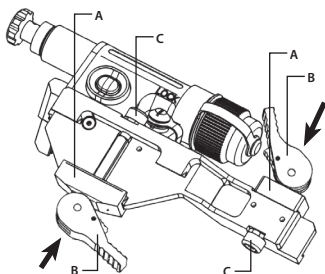

FIGURE 3-10. CLAMPING DEVICE ADJUSTMENT
2. With the clamping device (A) unlocked (as shown in Figure 3-10), push the cam (B) towards the arrow so that the nut (C) is released from the hole.
3. To tighten/ loosen the clamping device, push down on the cam (B) and turn the nut (C) CW or CCW, respectively, by one-two increments (see note below). When the cam (B) is released, the backward-moving springs will push the nut (C) back into the hole.